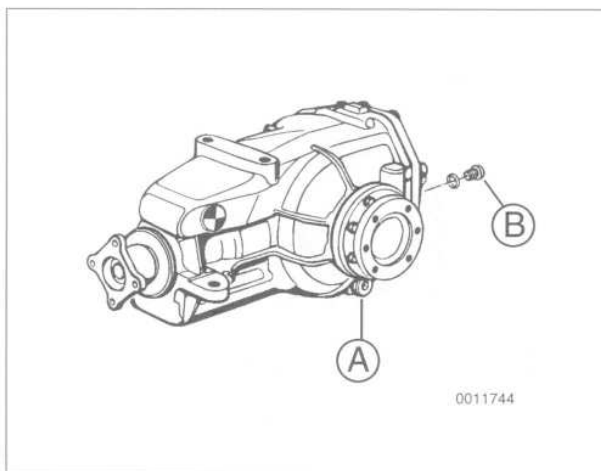

Fig. 6. Final drive drain plug (A) and fill plug (B).
2. Place a drain pail below final drive and remove drain and fill plug from final drive. See Fig. 6.